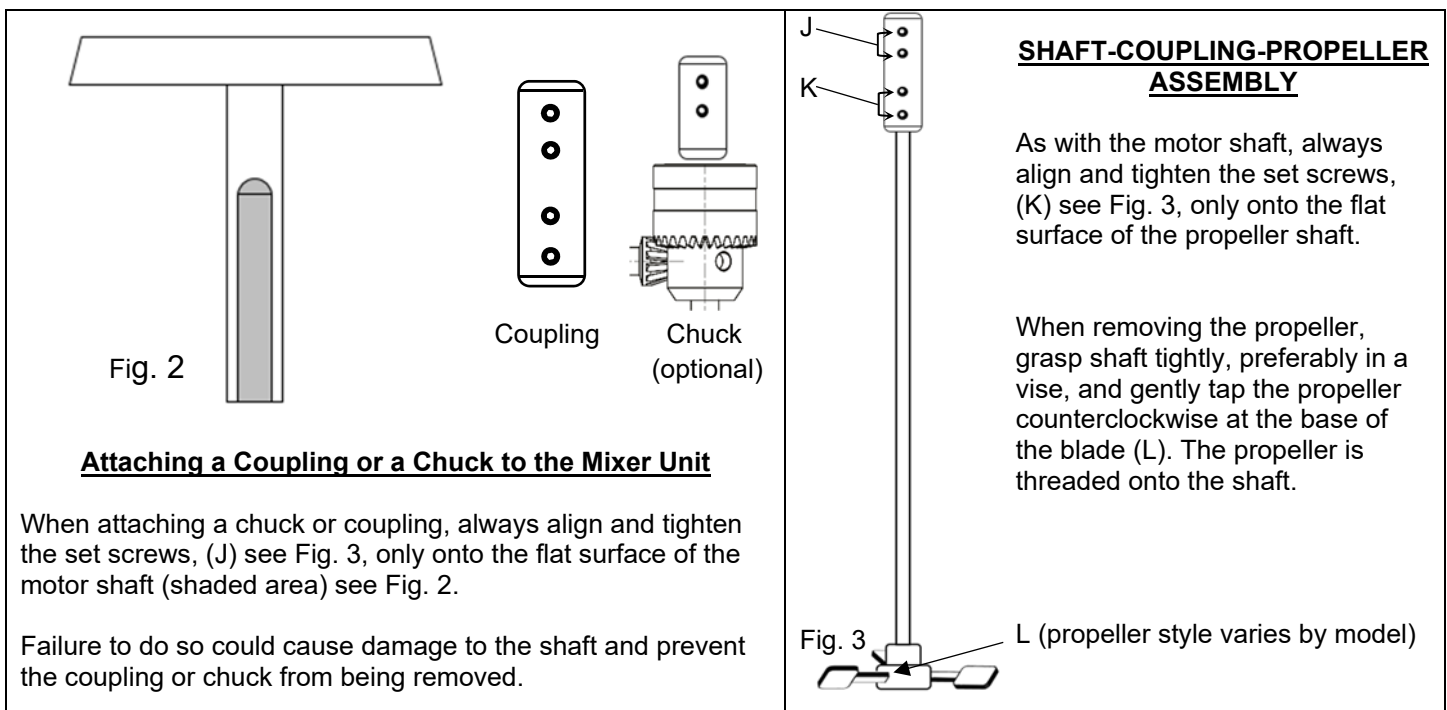

Fig. 2
see Fig. 2
When attaching a chuck or coupling, always align and tighten the set screws, (J) see Fig. 3, only onto the flat surface of the motor shaft (shaded area) see Fig. 2.